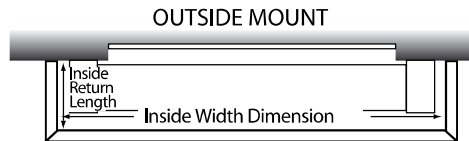

FIG. 2
### Outside Mount (OB) (Fig. 2)